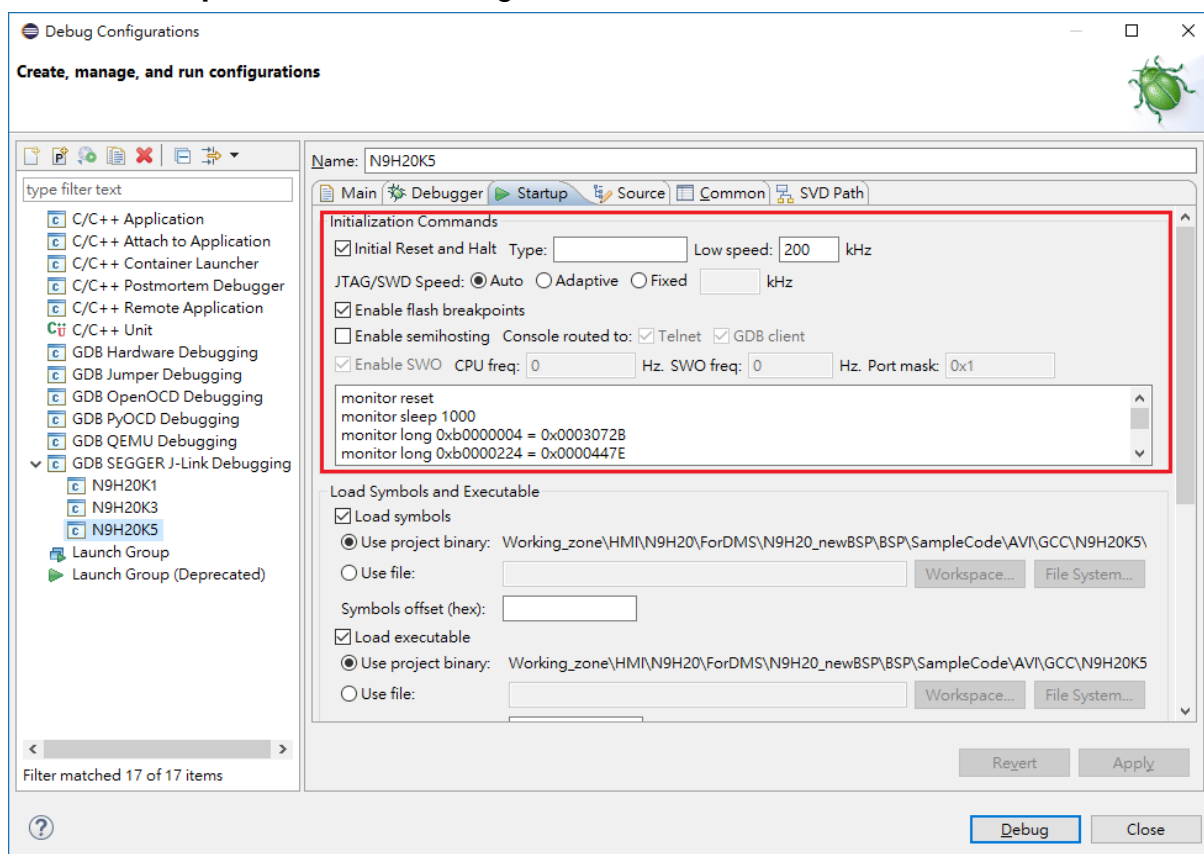

Figure 1-9 J-Link Startup Setting
- Go to **Startup** tab, as shown in Figure 1-9.